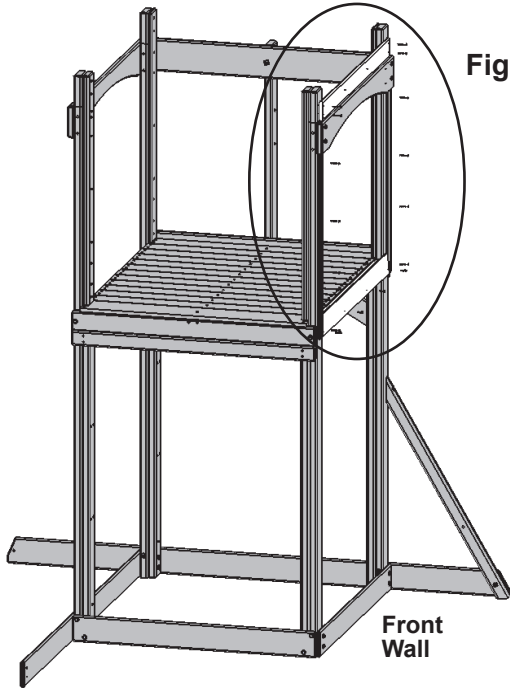

Fig. 16.1
- A:** Tight to the top (2590) Top Back Front on the Front Wall and 1-3/8" from the outside edge of each (1404) Roof Block attach (1412) Window Sill to (1404) Roof Blocks with 4 (S2) #8 x 1-1/2" Wood Screws. (fig. 16.1 and 16.2)
- B:** Tight to the bottom of (2590) Top Back Front attach 1 (1411) Wall Trim flush to the outside edge of each (1400) Post with 4 (S2) #8 x 1-1/2" Wood Screws per board. (fig. 16.1 and 16.2)
- C:** Flush to the bottom of each (1411) Wall Trim attach 1 (1482) Siding to (2586) Floor Front Back with 4 (S0) #8 x 7/8" Truss Screws. (fig. 16.1 and 16.2)